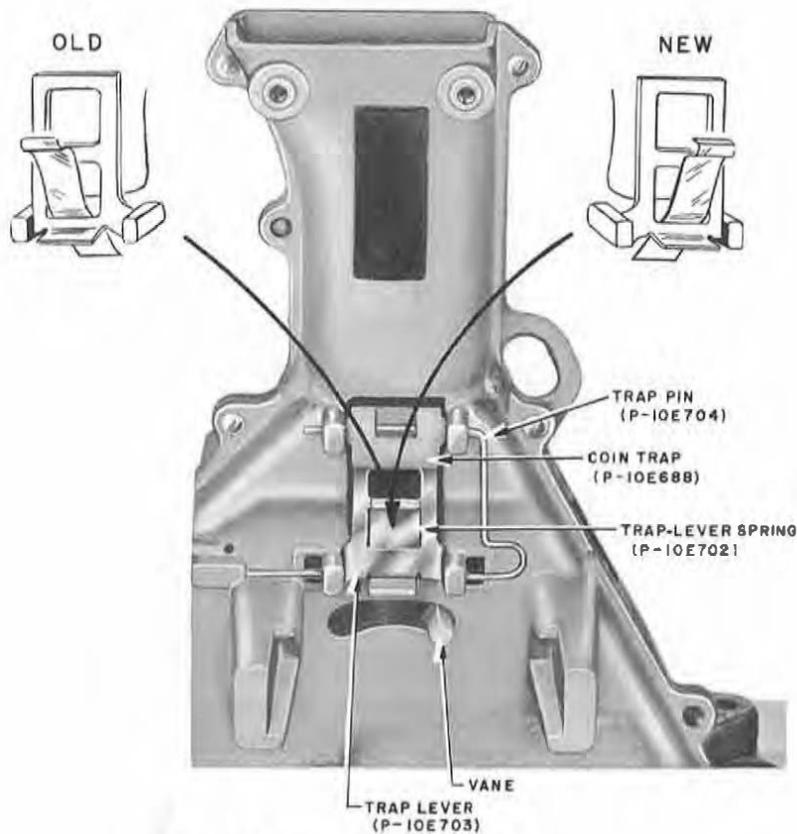

Fig. 7 - Trap-Lever Spring and Trap Lever Assembled
3.14 To prevent disengagement, the trap-lever spring has been redesigned. The new spring has three 90-degree angles instead of two. (See Fig. 7.) For field replacement of the trap-lever spring, follow procedures outlined in 3.15 and 3.16.